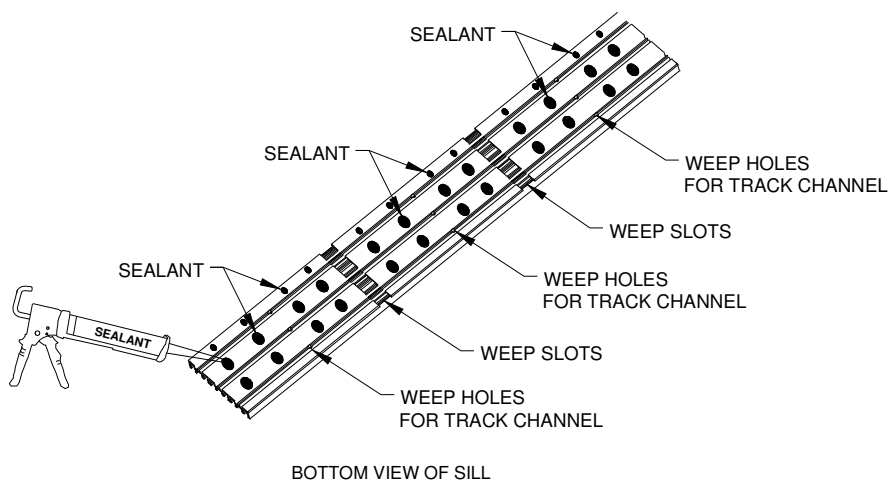
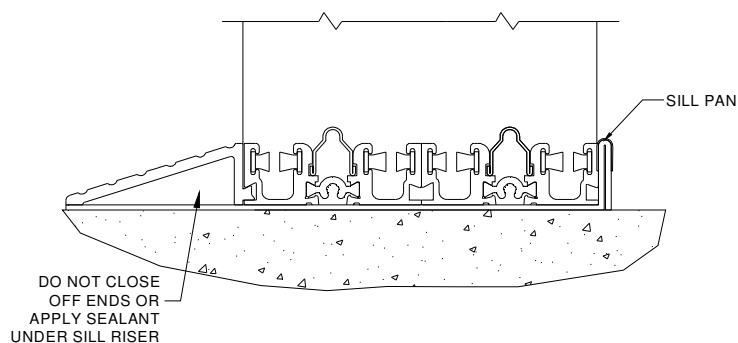

Figure 19:
Figure 20:
1. Attach sill to the Sillpan with a compatible sealant. Do not place sealant in or next to weep slots or weep holes cut or drilled in bottom of sill (Figure 19). Sealant that blocks weep slots will prevent sill from draining. The ends of the Sill Riser (optional) must also remain free of sealant in order to drain properly (Figure 20).